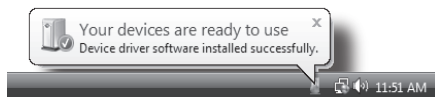

Figure 5
2. When it is finished installing the drivers, it will say "Your new hardware is installed and ready to use" (figure 5).